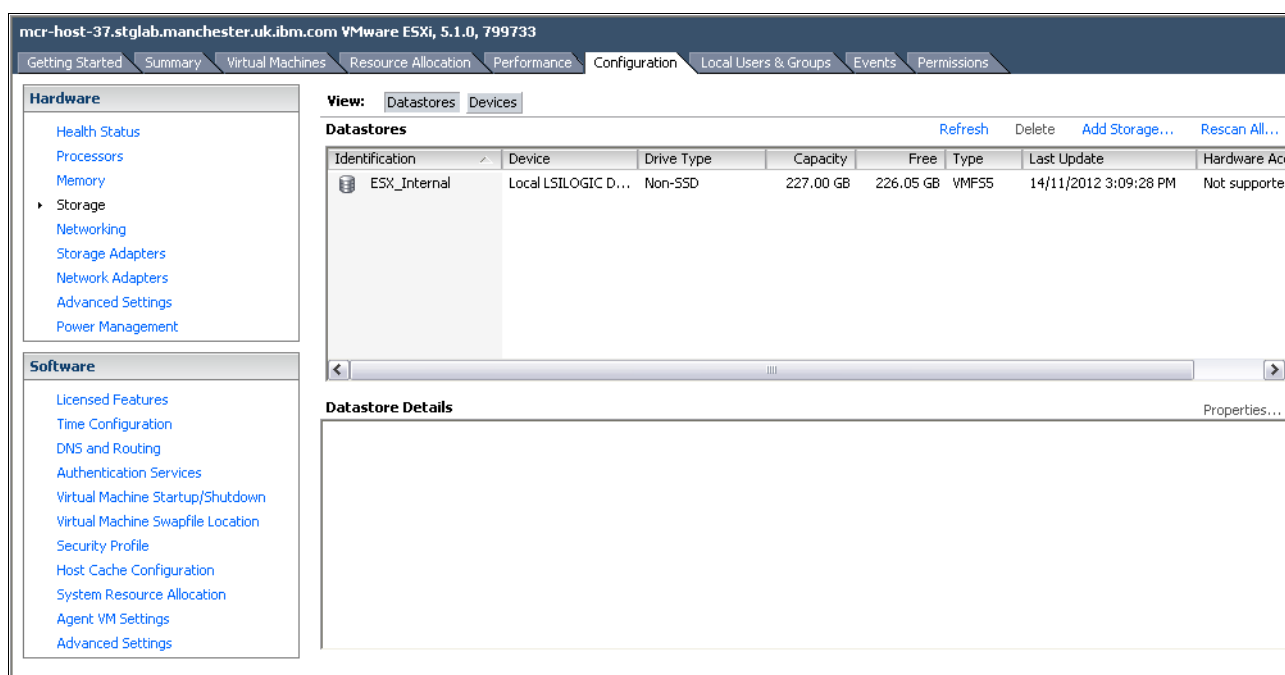

Figure 5-66 Add Storage menu
7. Go to the storage view that is shown in Figure 5-66 and click **Add Storage**.